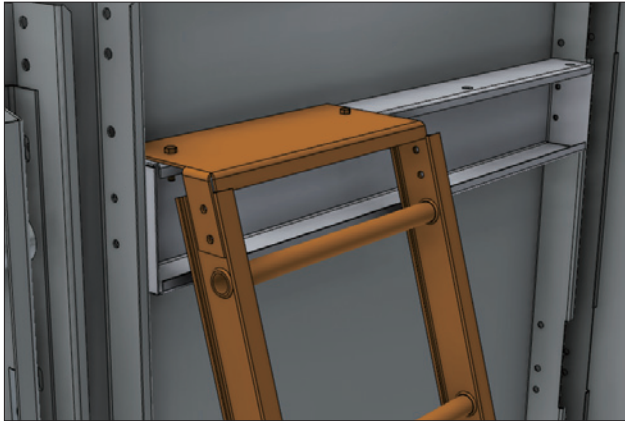

Figure 15a. Upper Section
1. Internal ladder can be installed either on motor side or fill side. Move the ladder to the correct location accordingly, then dropping the pre-welded bolts at the top into the mounting holes in the upper support channel. No further fastening is required. See **Figure 15a**.